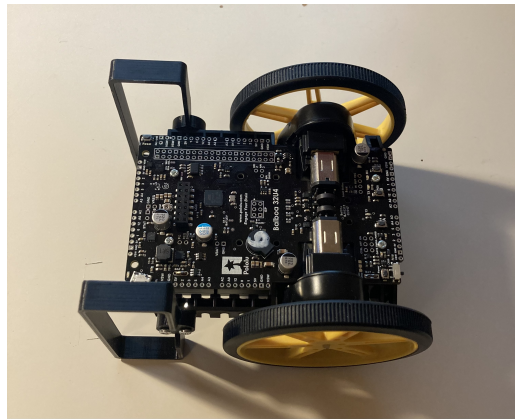

Figure 12: Initial position of the robot.
2. Place the robot inside its rolling area, in the same position as in Figure 12.